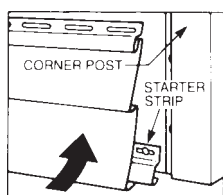

FIG. 12 Fastening of Initial Siding Panel
9.3.2 Engage the bottom of the first panel and the starter strip. If backerboard insulation is used, drop it in behind the panel now. Make sure the panel is locked, but not pulled tight, and fasten leaving 1/4 in. (6.4 mm) gap at the corner posts. Space fasteners not over 16 in. (406 mm) on center. (See Fig. 12.)